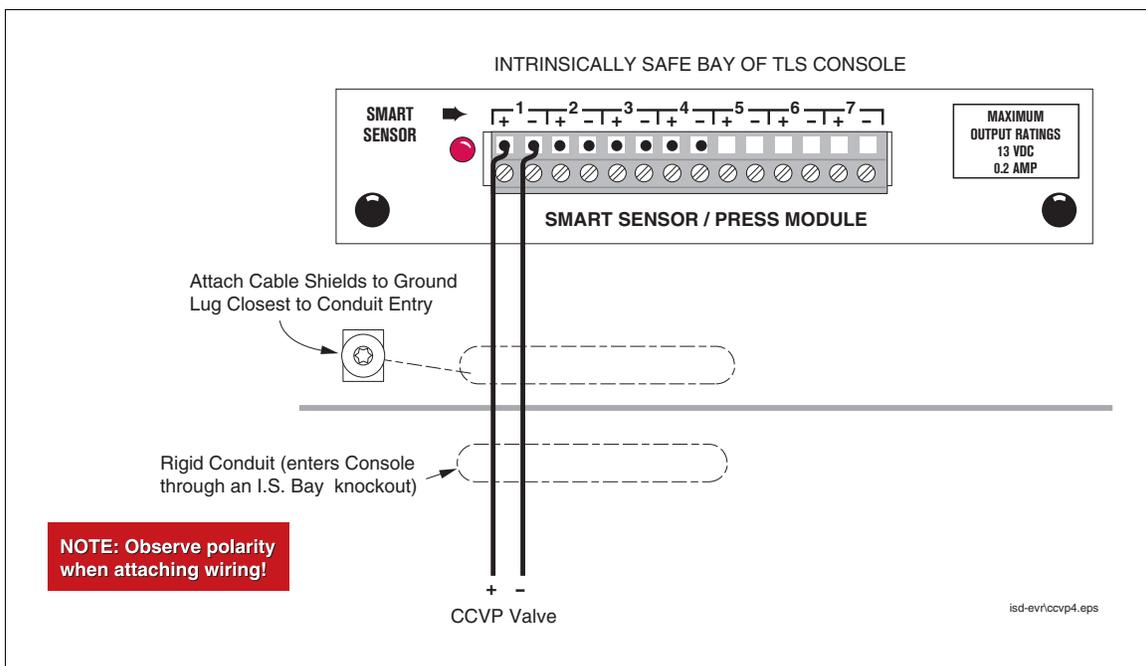

Figure 7. Attaching CCVP vapor valve wiring to TLS-350 Console
13. Attach CCVP vapor valve field wiring to the Smart Sensor Interface Module in the TLS console as shown in Figure 7.